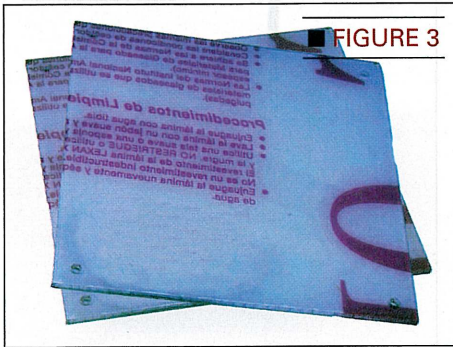

FIGURE 3
- **STEP 1:** You will need two pieces of acrylic as shown in Figure 3. The size I used was 5" x 5". A little larger size won't hurt, but I would not cut them any smaller. I also drilled a 5/32" hole into each corner of one piece. I then used that piece to mark and drill the second. This will insure that the holes line up when you add the standoffs later.